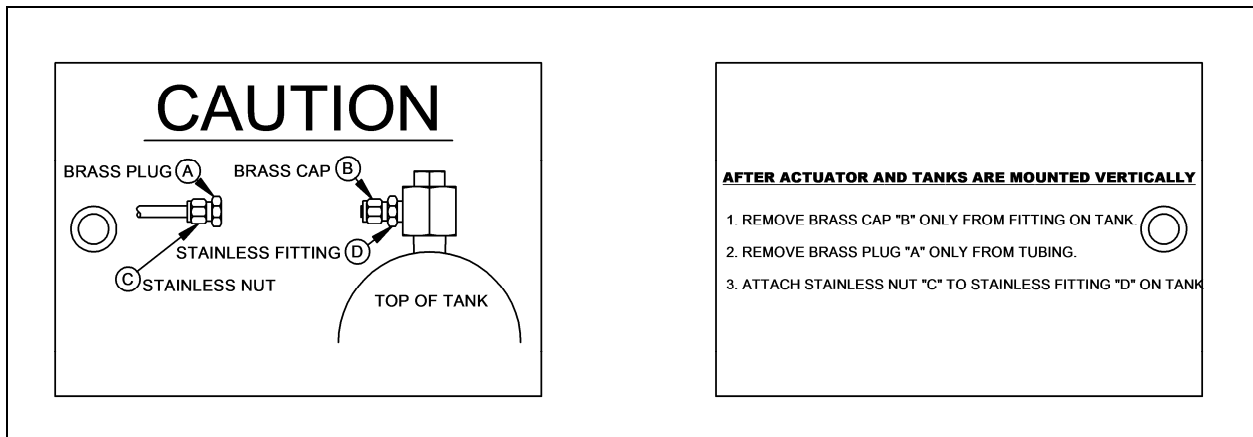

Figure 2: CAUTION Tag Instruction For Reattachment of Tube Lines
2. As instructed by the second yellow tag provided on the Gas / Hydraulic Tanks (see Figure 2), remove the brass closures, attach the tube lines and tighten. Also, other temporary closures are provided for shipping and storage; remove these as you run the tube lines.